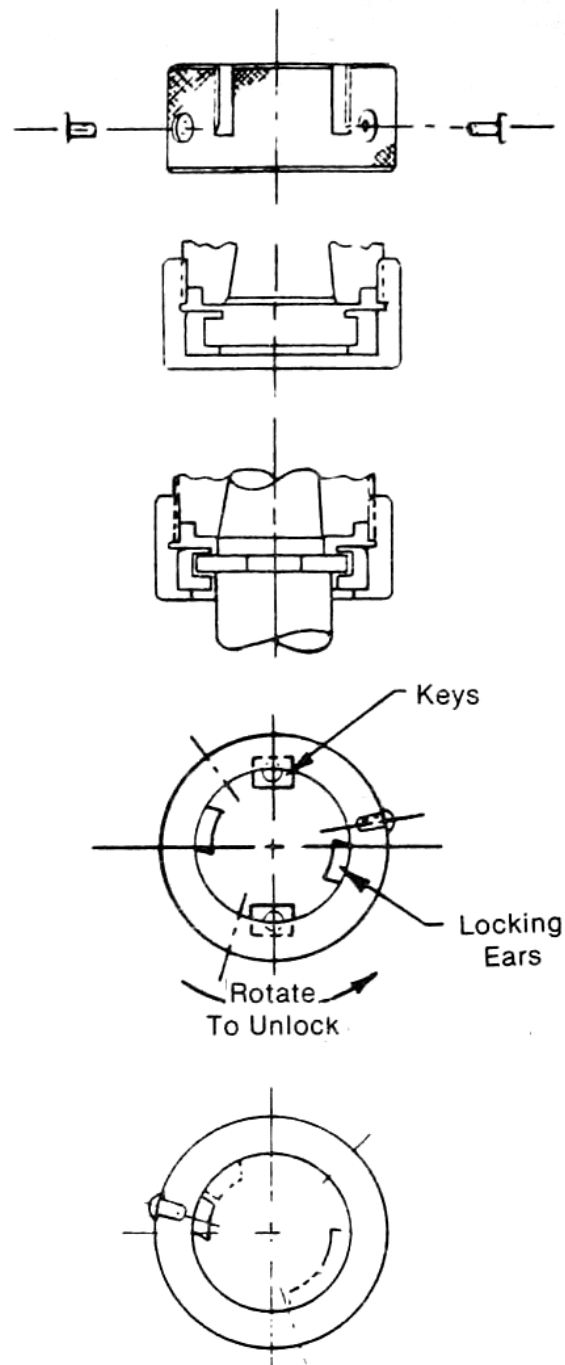

Figure 11-2 Quick Change Locknut Assembly
4. Place blocks under the spindle to prevent it from dropping when loosened from the quill. Remove the spindle nose locknut (2-19-0514) from the quill (Figure 11-2). The spindle is now free to be removed from the quill.